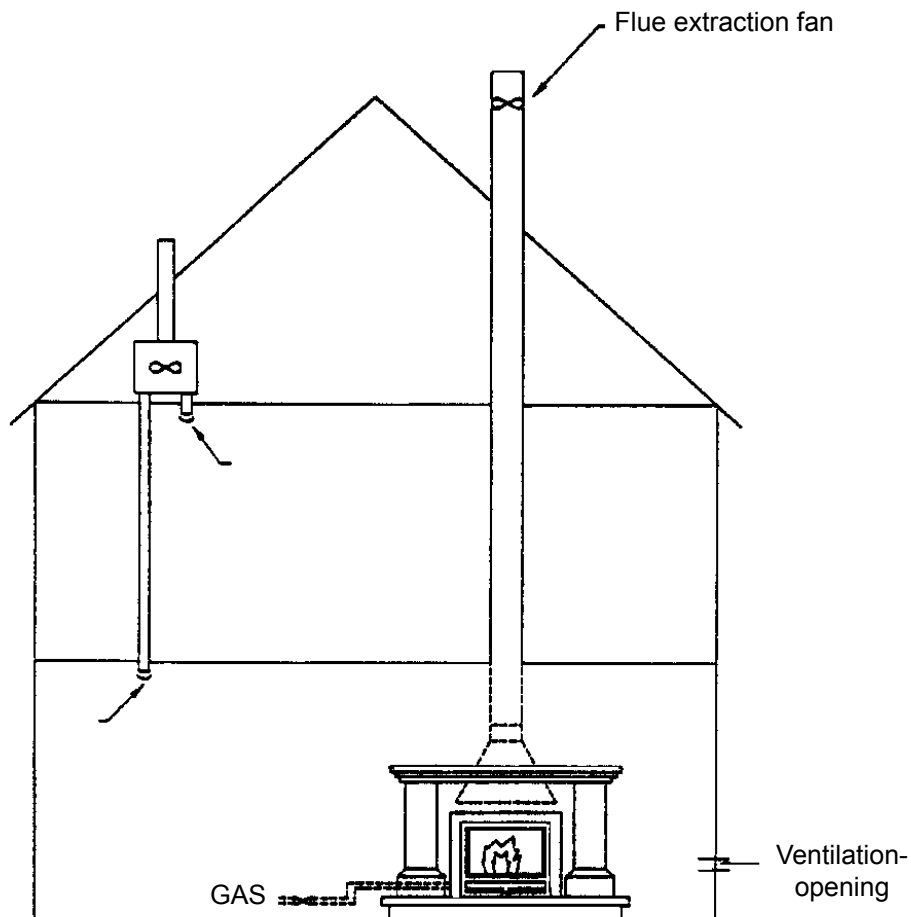

Figure 2: Mechanically ventilated house
- 2 MECHANICALLY VENTILATED HOUSE (see Figure 2)